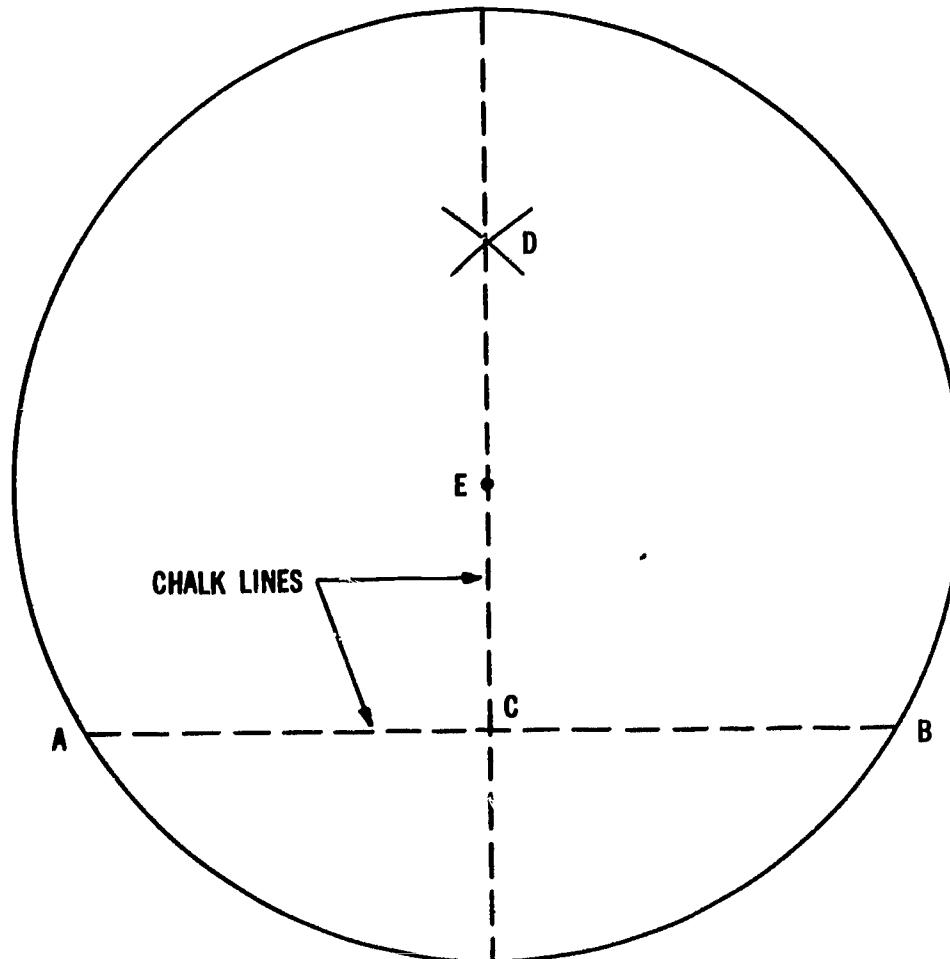

Fig. 19. Laying out a circular room
1. Strike a chalk line between any two points on the wall (Fig. 19, AB).